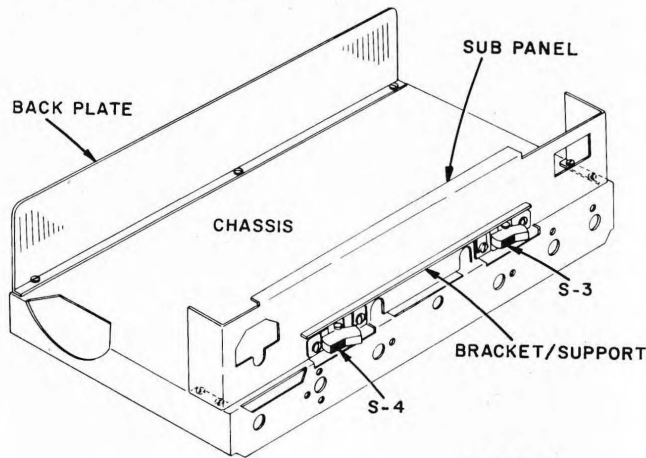

FIGURE 2.
- Turn the chassis over and position it as shown in Figure 2.